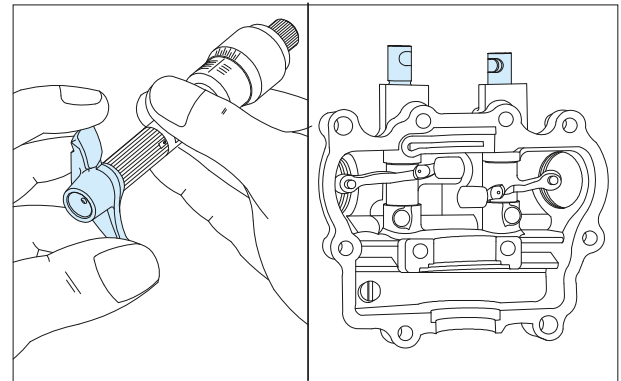

Fig. 3.110
- Inspect the rocker arm assembly for wear and damage. Measure the internal diameter (ID). If the ID is more than the service limit, replace the arm. (Fig. 3.110)
**Caution:** While reassembling the relief cut given in both the shaft valve rocker arm should face each other to enable the cover cylinder head bolts to enter into the groove. (Fig. 3.110)